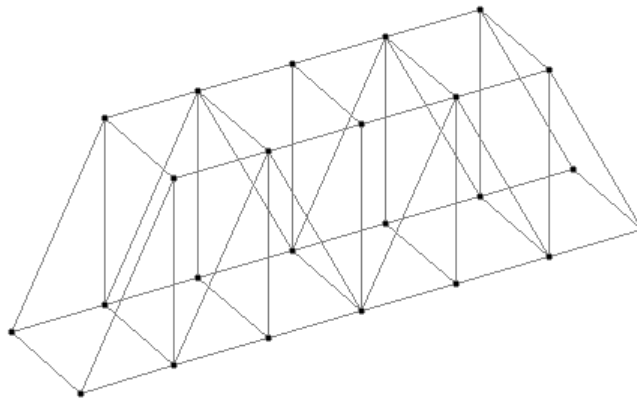

Figure 2-54 The Howe Bridge model
In this example, you will create Howe Bridge in Structure Wizard and transfer it to STAAD.Pro. Figure 2-54 shows the structure of Howe Bridge to be created in this example.
Step 7: Choose the **Yes** button; the **Paste Prototype Model** dialog box is displayed. Choose the **OK** button; the model is displayed in the main area of the STAAD.Pro window, refer to Figure 2-54.